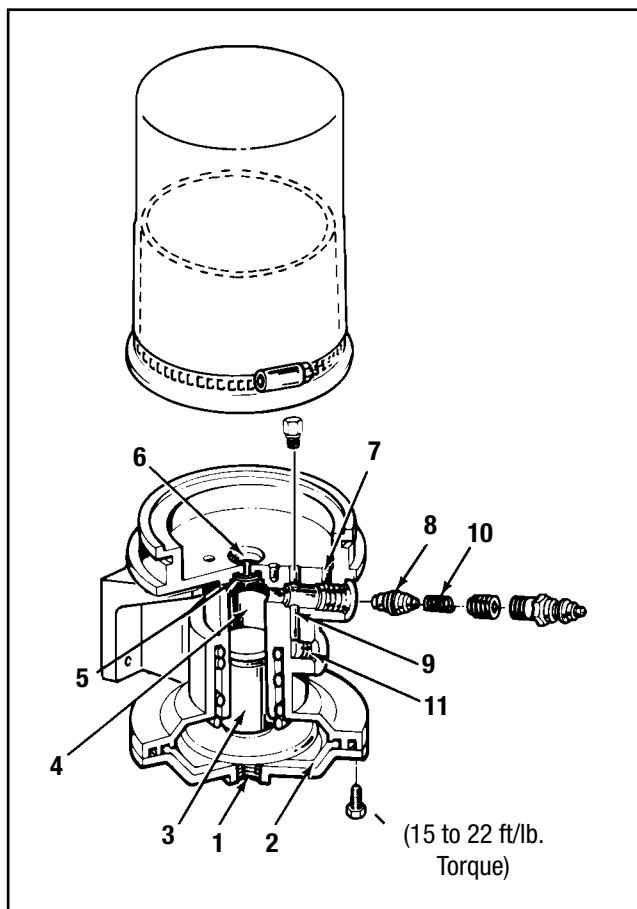

Figure 4
The air pump (Ref. Fig. 4) operates when the 3-way air solenoid valve is actuated by the timer and air pressure is applied to the air chamber port (1) and diaphragm (2). This forces the spring-loaded pump piston (3) upward compressing the grease in chamber (4). This pressure seats the flapper valve (5) against the reservoir opening (6) and grease flows toward port (9).